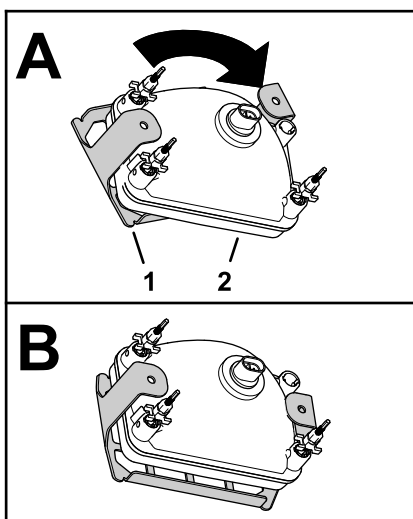

Figure 45
4. Assemble the headlight guards onto the headlights as shown in Figure 45.
7. Secure the head light guard to the headlight mount brackets (Figure 45) with the 4 flange bolt (5/16 x 5/8 inch).